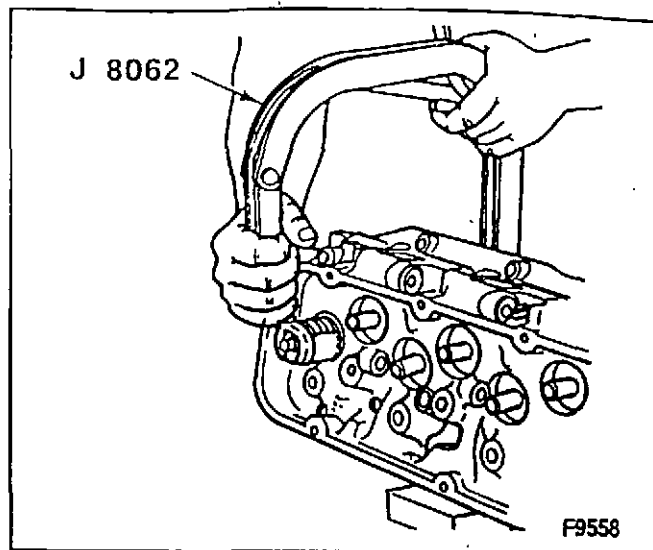

Figure 57—Compressing the Valve Springs
1. Valve keepers (251).
- A. Compress the springs (256) with J 8062 (figure 57).
- B. Remove the valve keepers (251).
2. Caps (253), shields (255), springs with dampers (256), and rotators (254).
3. O-ring seals (252) (if used) and seals (257).
A. Compress the valve spring using J 8062 (figure 57). Compress the spring until the valve stem groove can be seen.